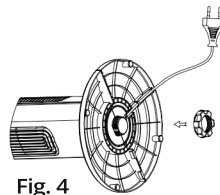

Fig. 4
4. Gently slot the main unit through the centre of the base and secure with the plastic fixing nut (Fig 4).